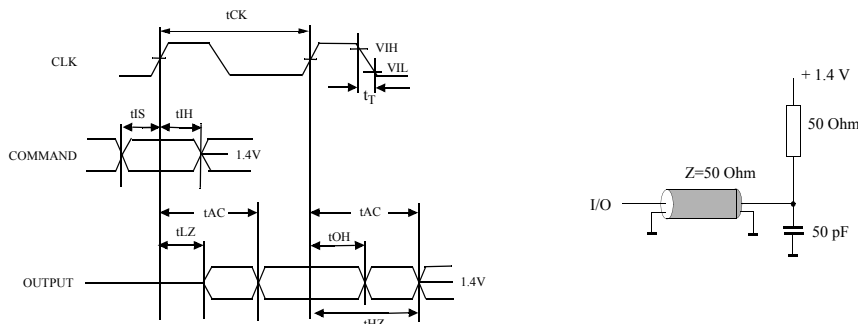

Figure 1.
- AC timing tests have $V_{IL} = 0.4V$ and $V_{IH} = 2.4V$ with the timing referenced to the 1.4 V crossover point. The transition time is measured between V_{IH} and V_{IL} . All AC measurements assume $t_T = 1ns$ with the AC output load circuit shown in Figure 1.